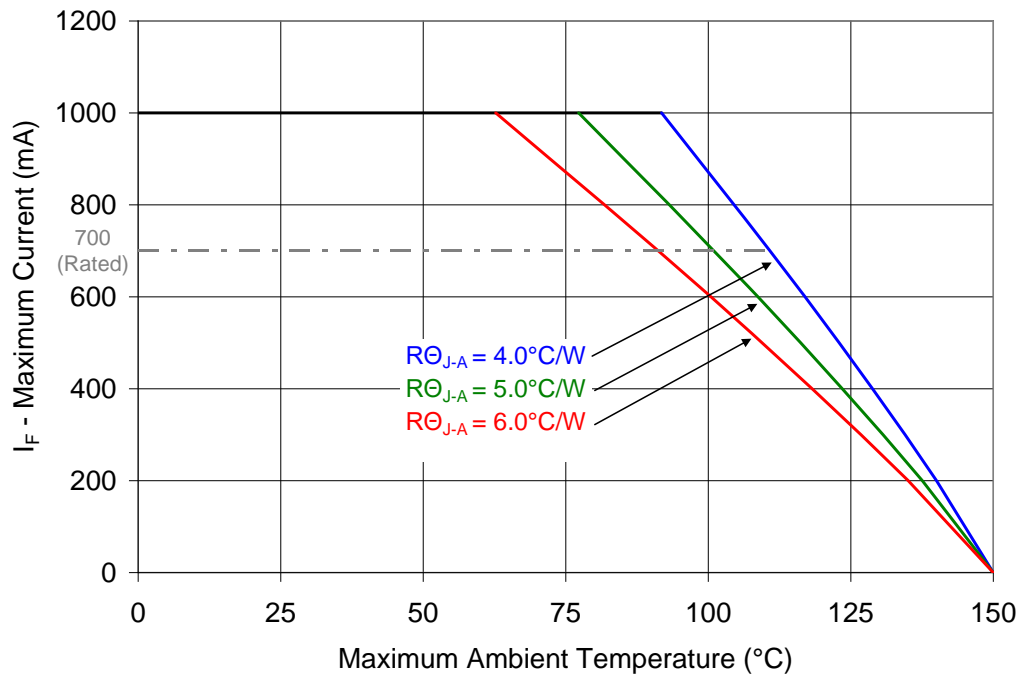

Figure 10: Maximum forward current vs. ambient temperature based on $T_{J(\text{MAX})} = 150^\circ\text{C}$.
- Maximum DC forward current is determined by the overall thermal resistance and ambient temperature. Follow the curves in Figure 10 for current derating.
Notes for Figure 10: